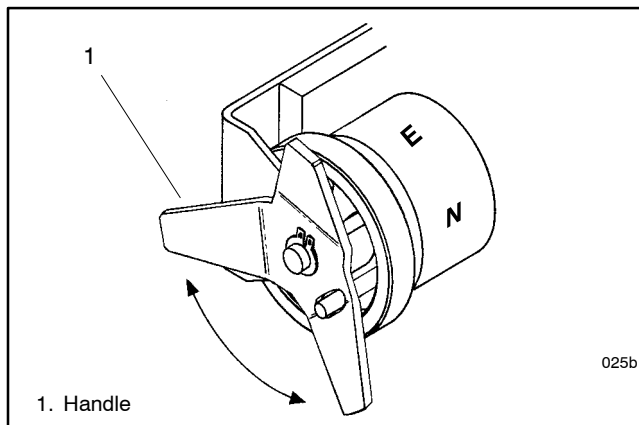

Figure 5-1 Manual Operation Handle, 30–200 Amp Switches
The 30–200 amp switches have a star-shaped handle for manual operation. See Figure 5-1. The handle is not detachable.
2. Turn the attached handle to manually operate the transfer switch. See Figure 5-1. The maintenance handle turns in the opposite direction of the weight. It should operate smoothly without any binding. If it does not, check for shipping damage or construction debris.